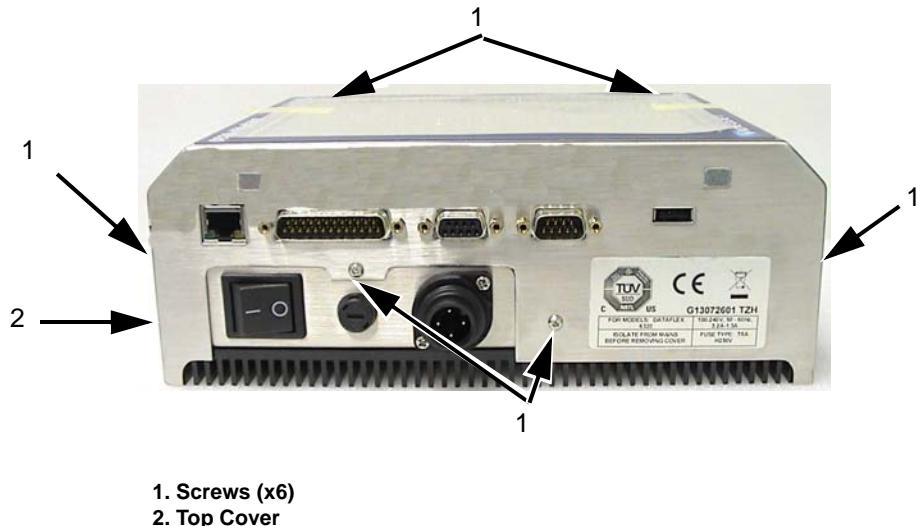

Figure 5-2:Controller Opening
- 1 Remove and retain the six screws from the sides of the top case (Figure 5-2).